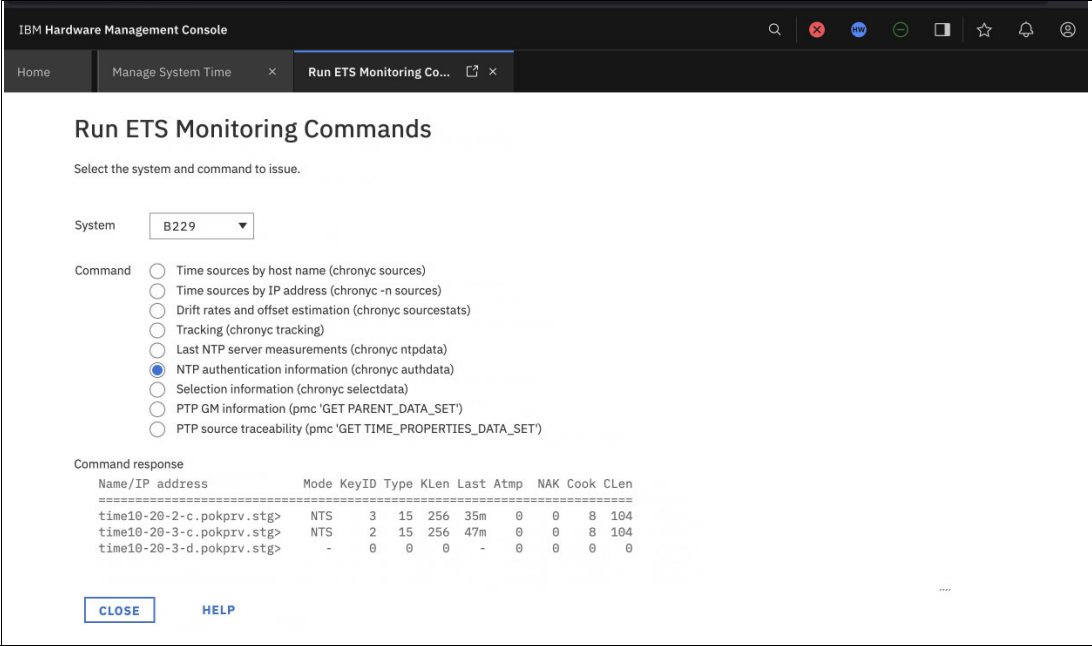

Figure 4-54 NTS information for configured NTP sources
6. NTP authentication information (NTS) data is shown in Figure 4-54 on page 96.